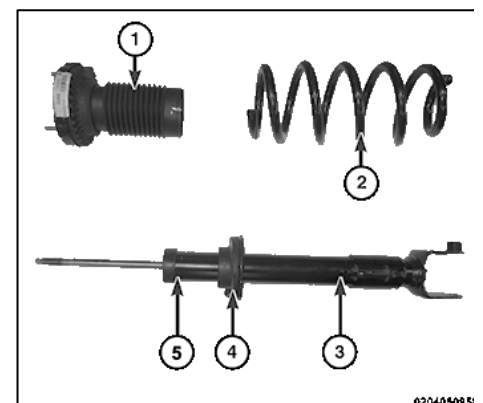

Figure 6
12. Remove upper mount (1) from shock shaft and coil spring if replaced is necessary. <Figure 6>
15. Remove lower isolator (4) from shock body by pulling straight up and off shock shaft. <Figure 6>
- a. Inspect upper mount (1) for cracks and distortion and its retaining studs for any sign of damage.
- b. Inspect upper spring isolator (1) for severe deterioration.
- c. Inspect lower spring isolator (4) for severe deterioration.
- d. Inspect dust shield(1) and jounce bumper for tears and deterioration.